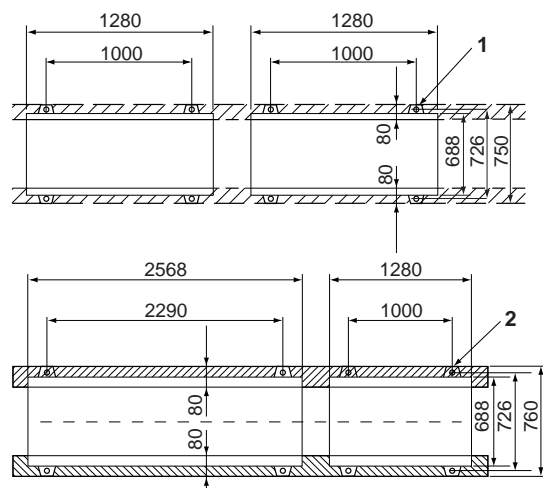

Fig. 1
The foundation must support the unit in the range above the shaped portion in the figure 1.
3. The unit must be installed on a solid longitudinal foundation (steelbeam frame or concrete) as indicated in figure 1.
2. The space around the unit is adequate for servicing and the minimum space for air inlet and air outlet is available. (Refer to figure 1 and choose one of both possibilities.)